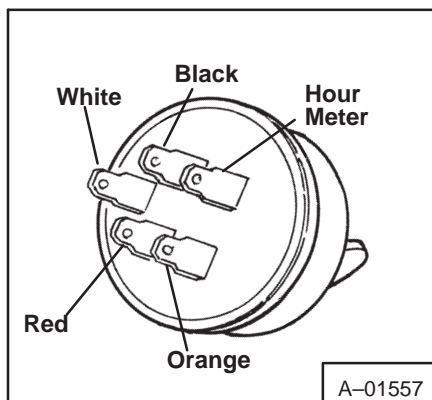

Fig. 14 Switch Terminals
2. Prevent alternator (AC) leads from touching or shorting. This could permanently damage the stator.
4. Check the leads on the terminal plug on the wiring harness to see that they are in the correct location (Fig. 14). The battery or hot (orange) wire must go to the B+ terminal on the rectifier-regulator.